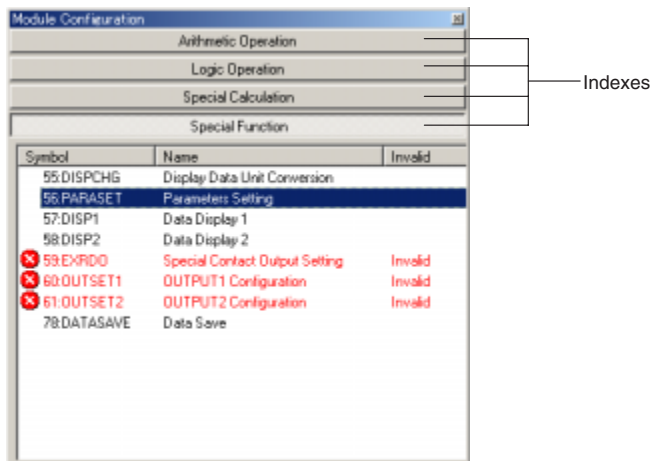

Figure 12.6.3 [Module Configuration] Dialog Box
- (2) In the [Input Block] dialog box, double-click a blank box. The [Module Configuration] dialog box (Figure 12.6.3) appears.